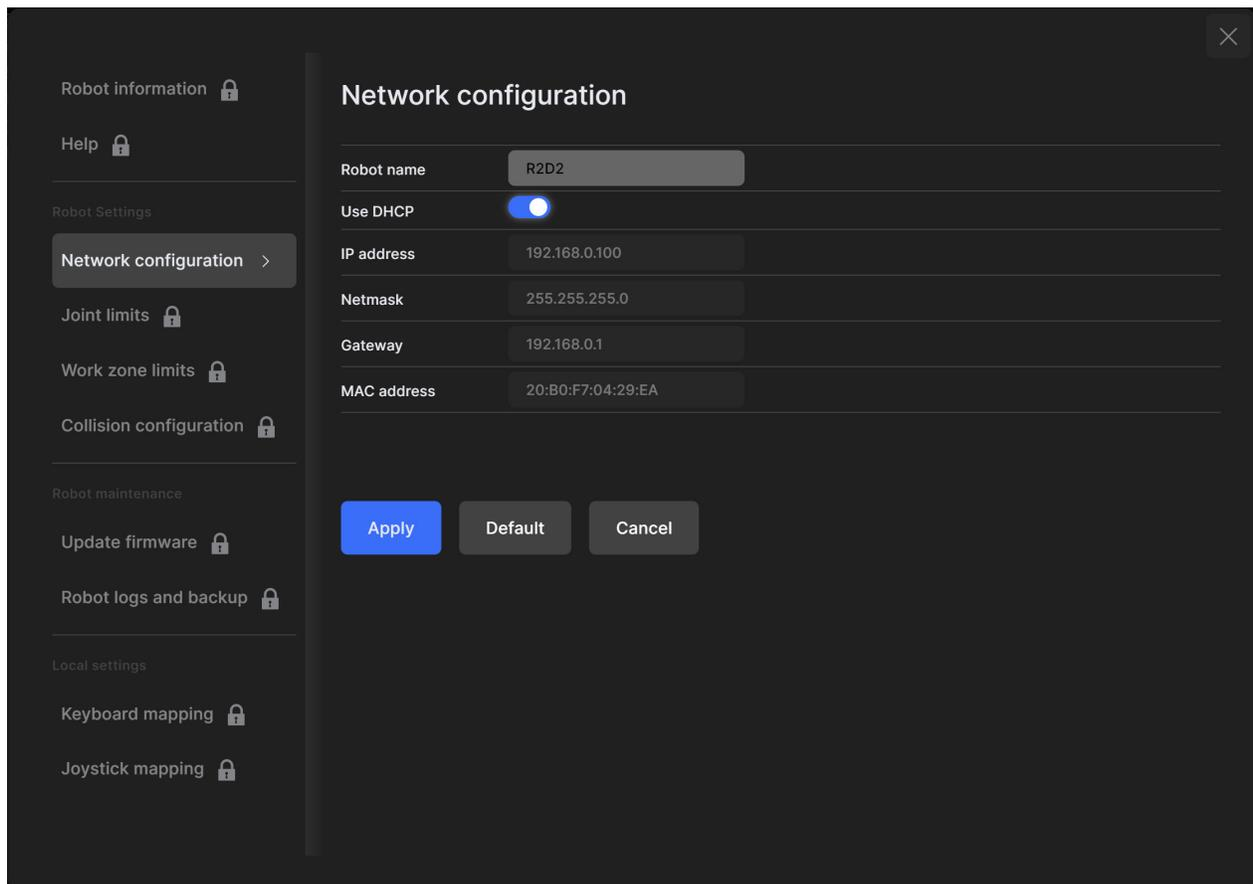

Figure 15: Changing the robot's network configuration
3. Depending on your configuration, activate the toggle DHCP to automatically receive an address from your router or leave untoggled to force a specific IP. You don't need to reboot the robot; the new configuration will be applied as soon as you click on the Apply button (Figure 15).